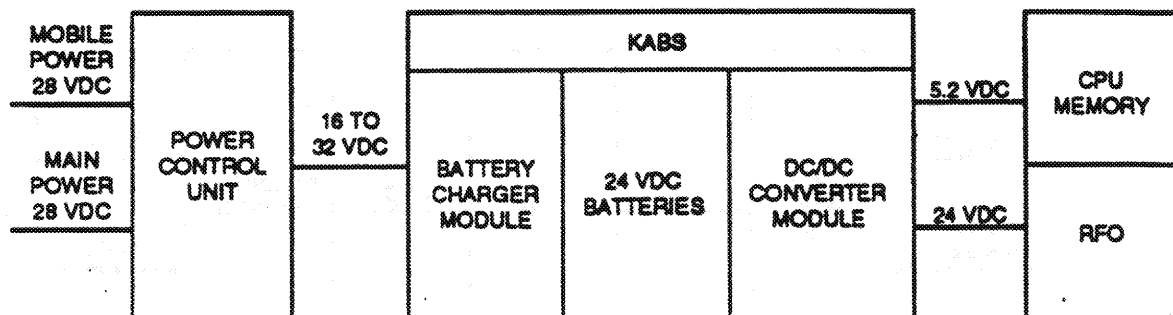

Figure 2-2. Keep-Alive Battery System
e. **Keep-Alive Battery System (KABS).** The KABS charger (Figure 2-2) is used during power failures in mobile or stationary mode. The KABS maintains CPU internal memory, as well as time reference signals for the RFO keep-alive subsystems in the terminal for up to three hours.
- (1) During normal operation, the KABS is maintained by power from the terminal DC power supply. During this time, the KABS also charges the two battery packs. When a power failure occurs, the KABS maintains the 5.2 VDC power to the selected CPU memory circuits, and the 28 VDC power to the RFO to maintain time-of-day (TOD). This reduces the time needed to return to operation after a short-term power loss or changeover between stationary and mobile operations.